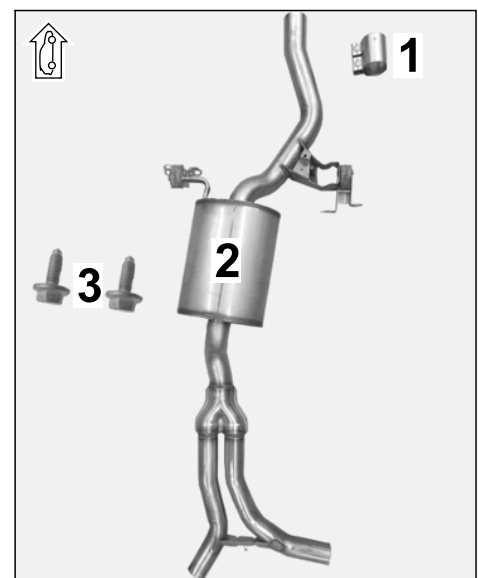

Figure 49
6.2 Install new center muffler (⇒ *Figure 49*).
- 3 (2) – Hexagon flange bolt, M8 x 25